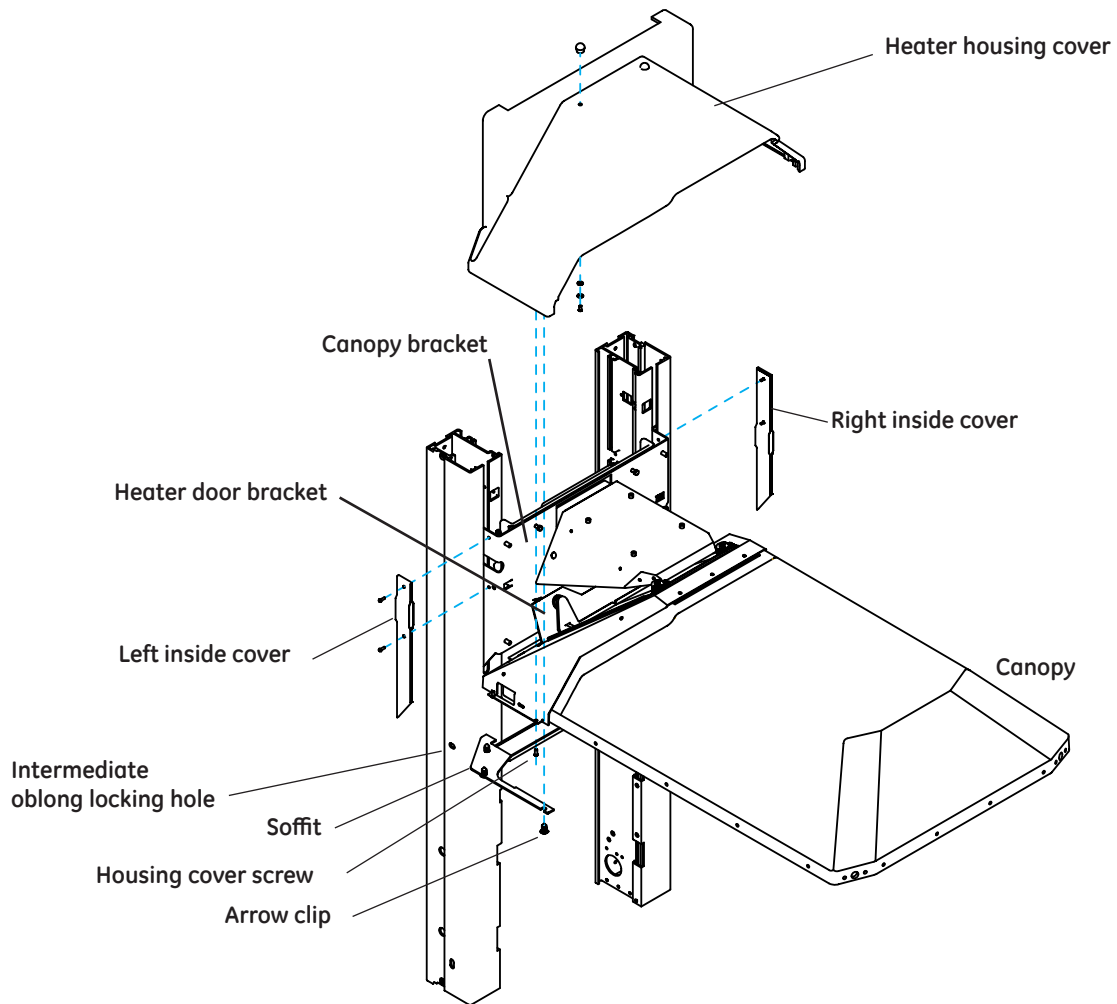

Figure 5-1 Heater Housing Cover and Soffit
- b. Slowly lower the canopy until the rail locking screws align with the horizontal oblong holes in the rails. (Refer to Figure 5-1.)
- a. Using a small straight-blade screwdriver, remove the six arrow clips that secure the soffit beneath the north end of the canopy. Remove the soffit. (Refer to Figure 5-1.) Save the six arrow clips and soffit for later installation.